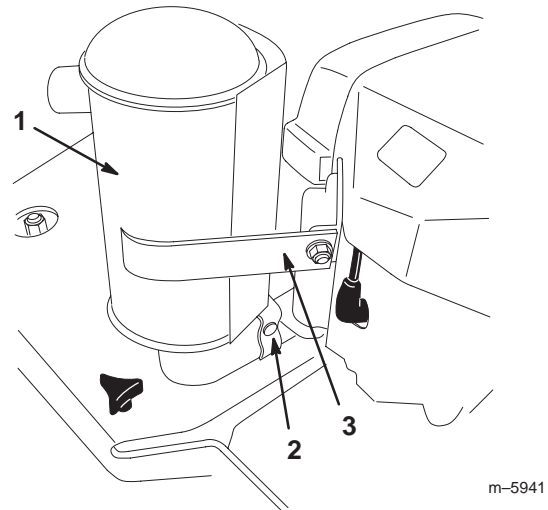

Figure 15
- Loosen the clamp (Fig. 15).
- Rotate the muffler forward into the position shown in Figure 15.
- Secure the muffler bracket (Fig. 15) to the engine bracket with the hardware provided.